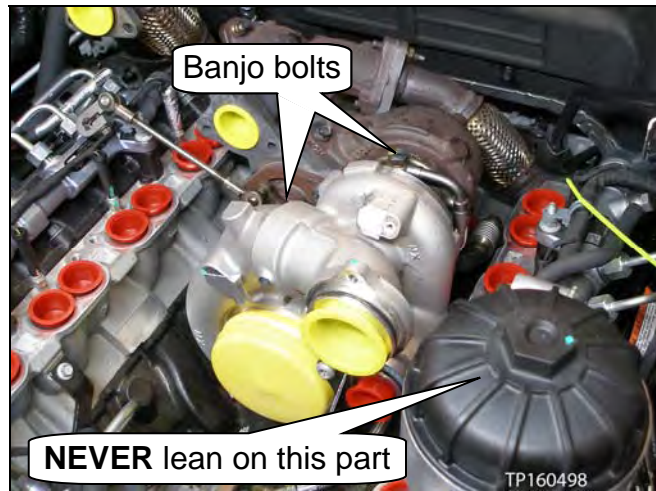

Figure 60
5. Position the new high pressure turbocharger on the low pressure turbocharger (see Figure 60).
CAUTION: Do not lean on the stage 2 fuel filter assembly at any time while it is unbolted (see Figure 60).
- The “low pressure” banjo bolt cannot be seen in Figure 60 or 61.